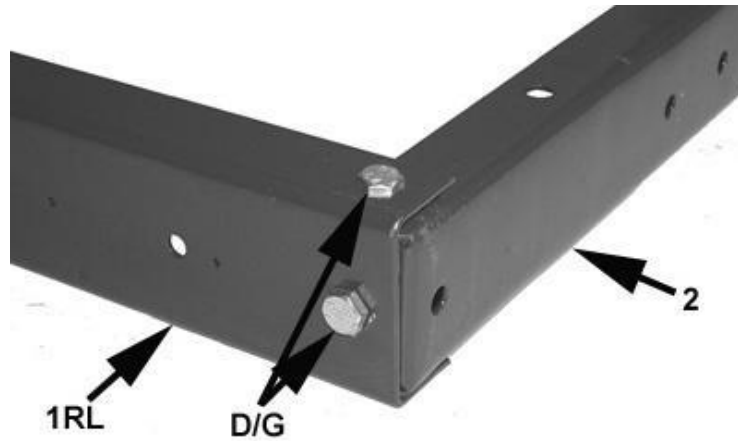

Figure 3-4
4. Verify that the rear cross member (2) is positioned with the opening the channel facing the front of the trailer. See figure 3-4. *Note: If trailer is equipped with a tailgate, cross member must be installed with tailgate brackets on the top.* See figure 11-2.
5. Connect rear cross member (2) to left frame rail (1RL) with M10 x 20 bolts (D) and M10 nylon lock nuts (G). See figure 3-4.